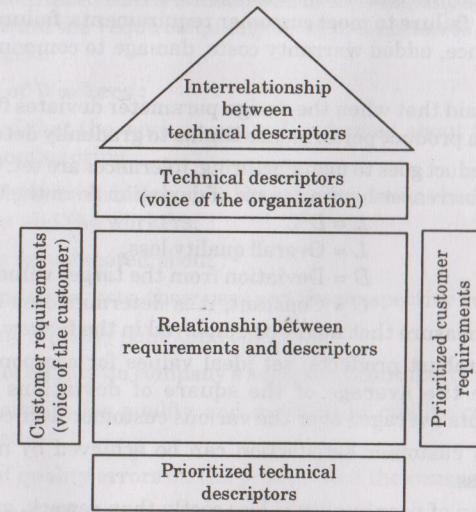

Fig. 2.18.1.
4. The structure can be thought of as a framework of a house, as shown in Fig. 2.18.1.